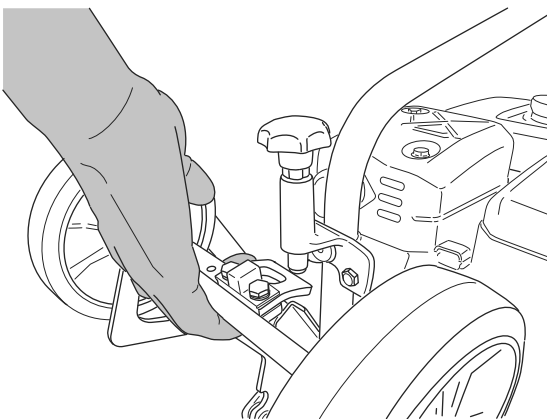

Fig. 10
3. Raise the axle and revolve it to the stored position. (Fig. 10)